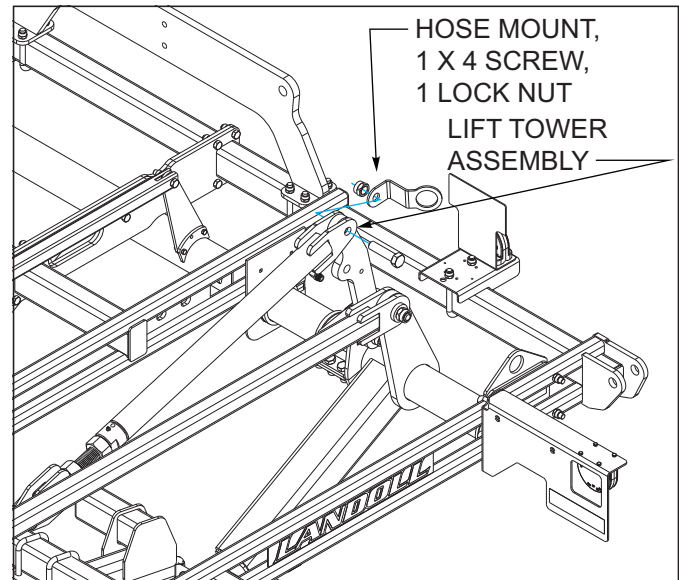

Figure 3-7: Hose Mount Installation
7. Attach hose mounts to lift tower assemblies with 1 x 4 screws and 1 lock nuts See Figure 3-7.